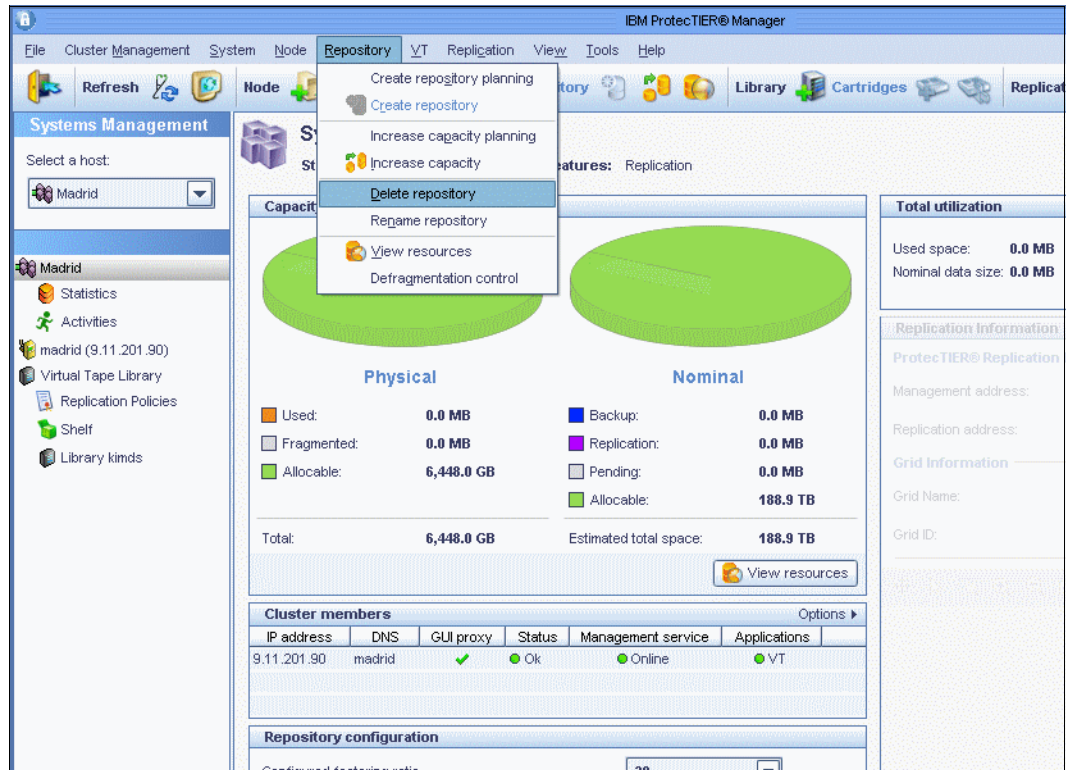

Figure 10-12 Delete repository window
2. From the menu bar, select **Repository** → **Delete repository** (Figure 10-12).